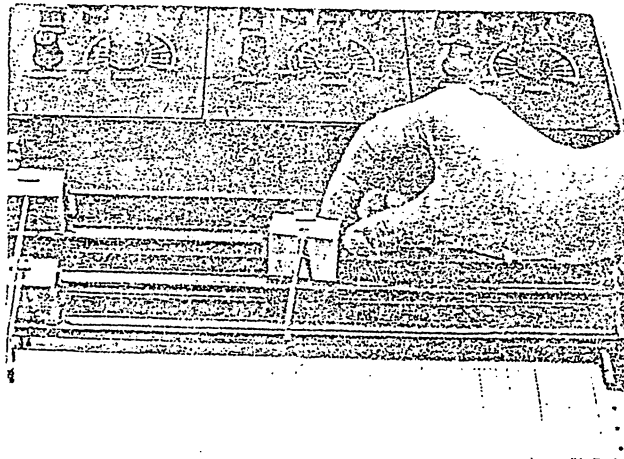

Fig. 17
- c) When removing the recording pen, remove the pen from the click of pen holder as shown in Fig. 17. In this case, do not hold the pipe part.